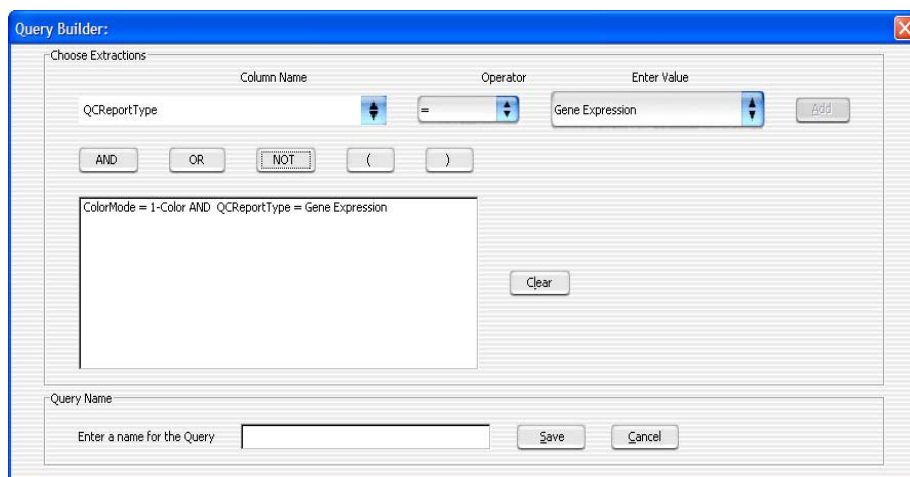

Figure 6 Query Builder showing a composite query.
- 5 In the **Query Name** area, enter a name for the query. See Figure 6 on page 22.
Figure 6 shows an example of a query that will find all 1-color gene expression extractions.